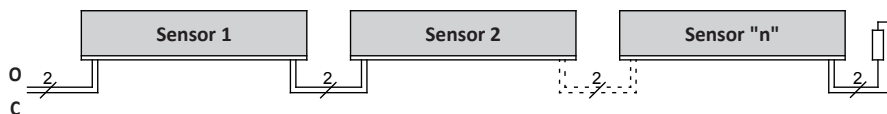

Figure 1: Wiring of multiple sensors; in this example: safety contact edge
8.4 Connecting multiple sensors per sensor circuit (figure 1)
One or more sensors can be connected to sensor input **O** or **C**. For this purpose, the individual sensors are connected in series according to figure 1.